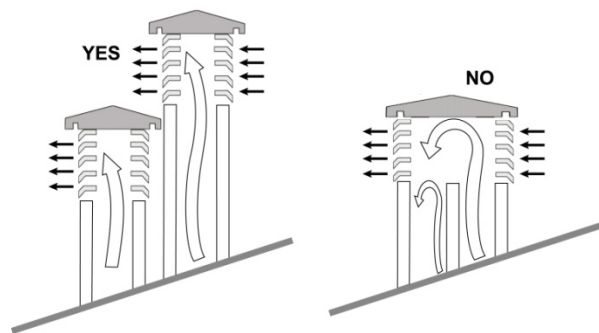
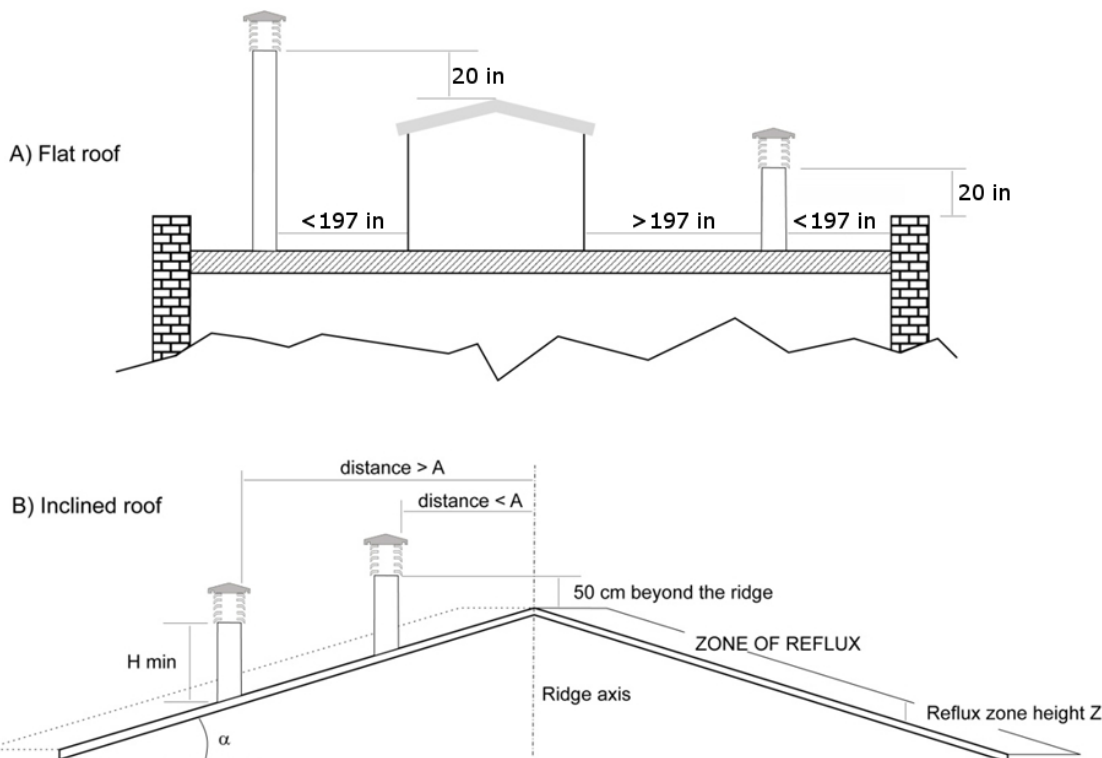

Fig.3
Fig. 4
- Whenever using parallel output chimneys, it is advisable to raise a bracing element. (Fig.3)
- The chimney cap must be positioned so as to guarantee an adequate dispersion and dilution of combustion products and, in any case, outside the zone of reflux. This zone can be different sizes and shapes depending on the angle of slope of the roof, so it is necessary to adopt the minimum heights shown in Fig.3 and Fig.4.
- The chimney cap must be of windproof and exceed the height of the ridge, Fig.3 and Fig.4.
- Any buildings or other obstacles that exceed the height of the chimney cap must not be close to the chimney cap itself (Fig.3).